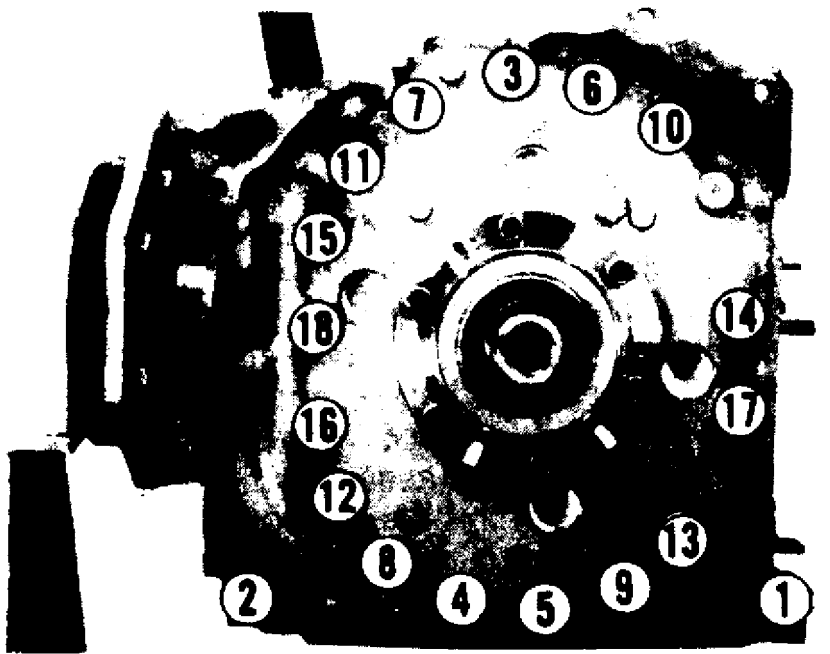

Fig. 4: Loosening Rear Housing Bolts
7) On all models, remove rear housing bolts in sequence. See Fig. 4. Loosen in 2 or 3 steps. Lift rear housing off shaft. Remove any seals stuck to rotor sliding surface, and place them back in original positions. Remove seals and "O" rings from face of rear rotor housing.